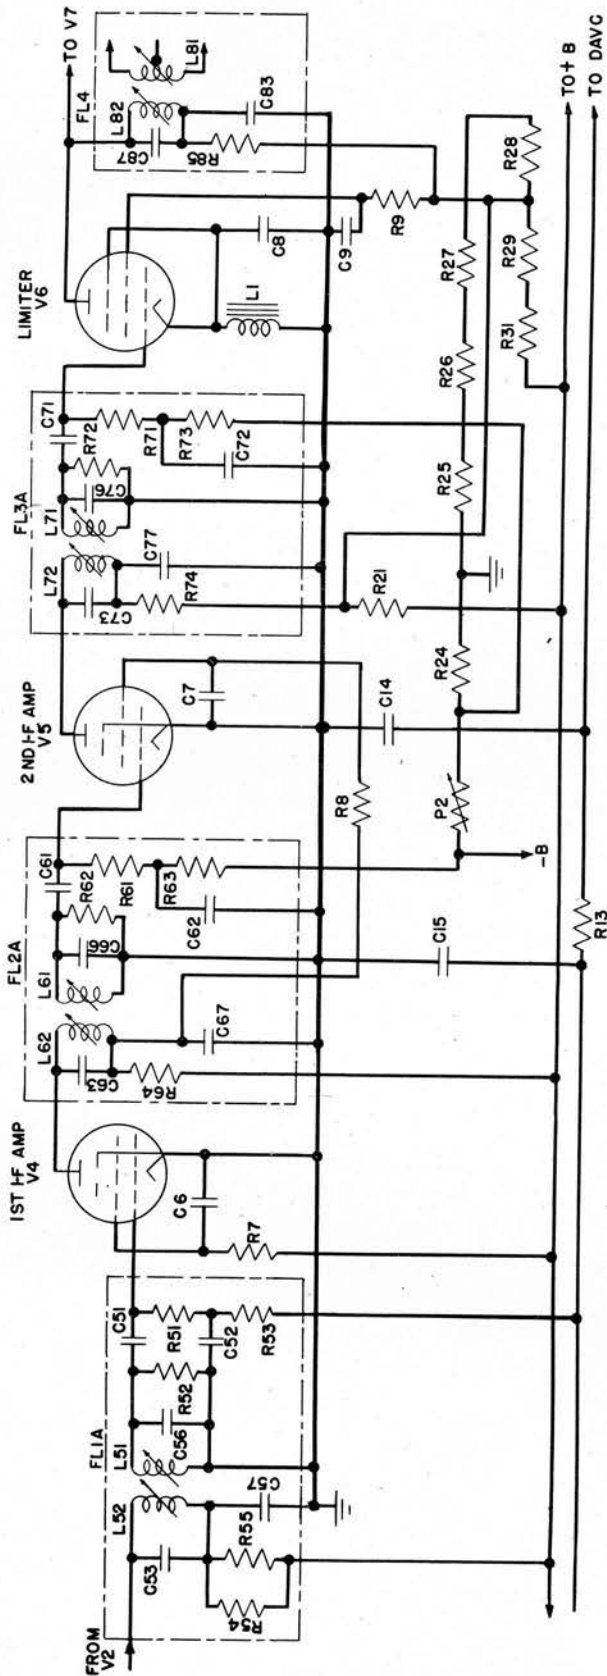

Fig. 26. Radio Receiver BC-683-A: Functional Diagram of I-f Amplifier and Limiter
*d. I-f Amplifier and Limiter.* The essential circuits of the intermediate-frequency amplifier and limiter stages are shown in Fig. 26. Band-pass filters FL1A, FL2A, and FL3A suppress undesired frequencies outside an 80-kilocycle transmission band which is centered at 2.65 megacycles, the intermediate frequency. Each filter is aligned by the adjustment of a magnetic core within each coil. Resistors R52, R62, and R72 in the three filters aid in securing the desired band-pass frequency characteristic.
shown in Fig. 26. Capacitors C53, C56, C63, C66, C73, C76, and C87 are all negative coefficient ceramic capacitors with a nominal capacitance of 60 micromicrofarads. In each case, the capacitor compensates for the positive temperature coefficient of the coil across which it is connected.